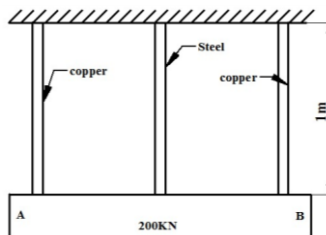

Figure 6
30. A horizontal rigid bar AB weighing 200kN is hung by three vertical rods, each of 1m length and 500mm2 cross section as shown in **Figure 6**. the central rod is of steel and outer rods are copper. If the temperature rise is 40°C, estimate the load carried by each rod and by how much the load will descend. Take  $E_s=200 \text{ GN/m}^2$ ,  $E_c=100 \text{ GN/m}^2$ ,  $\alpha_s=1.2 \times 10^{-5}/^\circ\text{C}$ ,  $\alpha_c=1.8 \times 10^{-5}/^\circ\text{C}$ .